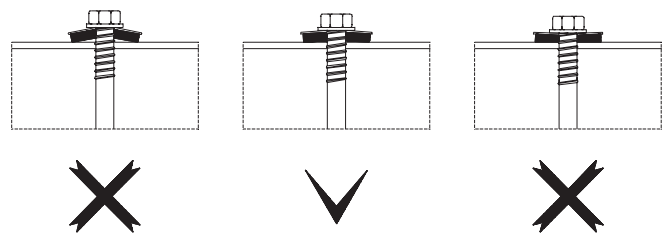

fig. 5
**b.** Pay adequate attention to correct tightening of fasteners (fig.5)